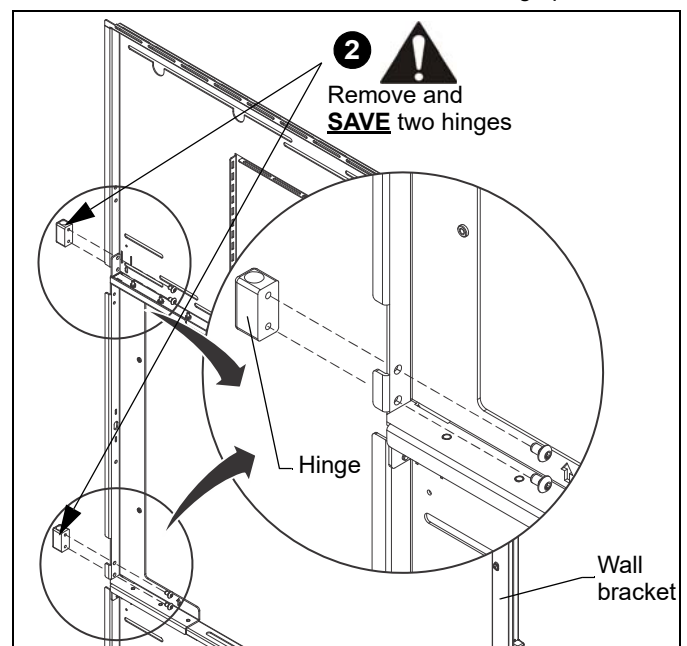

Figure 13
2. Remove and **SAVE** two lift-off hinges from hinged side of wall bracket. (See Figure 13)